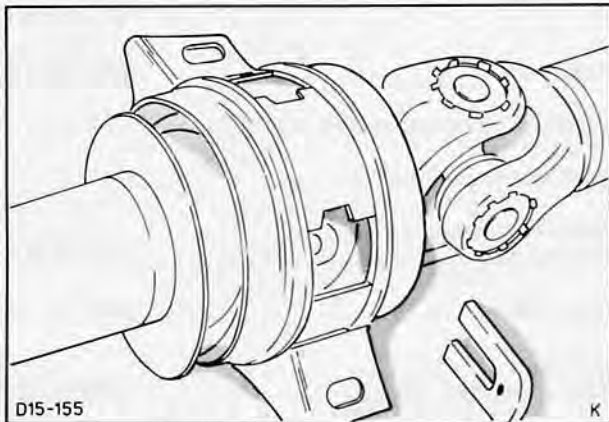

Fig. 145. Insert 'U' retainer
8. Insert bolt with locking plate into front half of driveshaft until U-retainer can just be slid into place, Fig. 145.